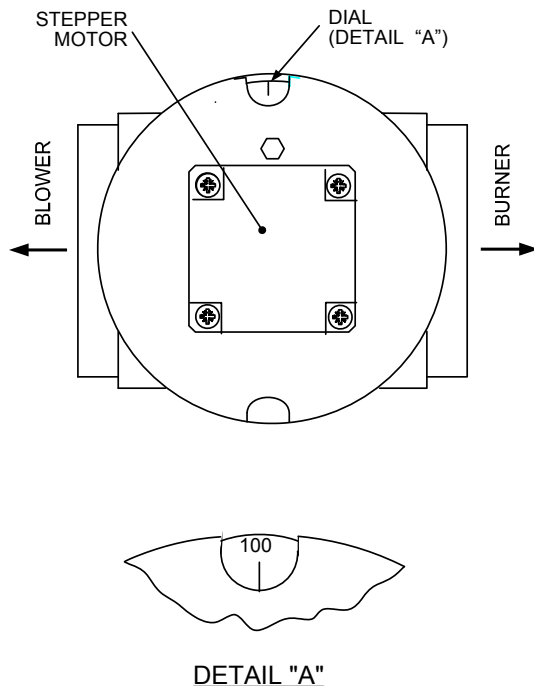

Figure 3-4.
- (b) Air/Fuel Valve rotates to the full-open purge position and closes purge position switch. The dial on the Air/Fuel Valve (Figure 3-4) will read 100 to indicate that the valve is full-open (100%).